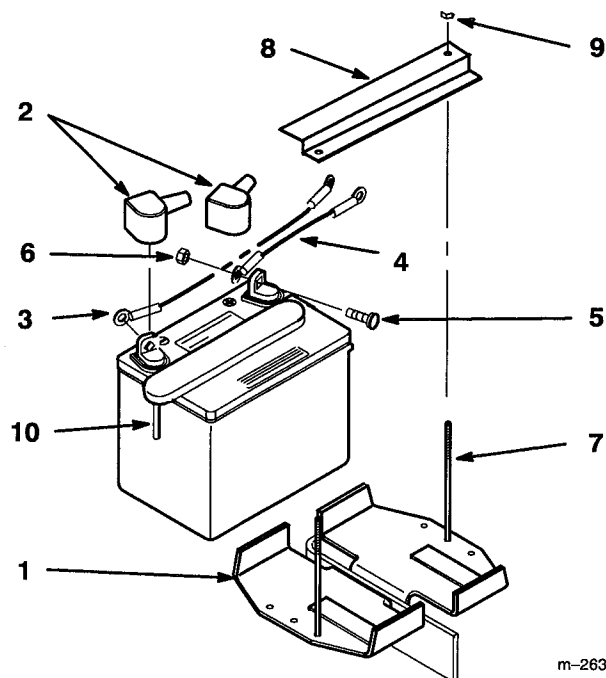

Figure 9
4. Position battery onto holder with terminal posts away from the engine (Fig. 9).
6. Install the positive (red) battery cable to positive (+) battery terminal and the negative battery cable to the negative (-) battery terminal. Secure cables with (2) 1/4 x 3/4" (19 mm) carriage bolts and 1/4" locknuts.
7. Mount battery to holder with (2) support rods, a battery clamp and (2) 1/4" locknuts. Position support rods in mounting holes (Fig. 9). Tighten locknuts so battery is held securely in position and will not slide. **DO NOT OVERTIGHTEN.**